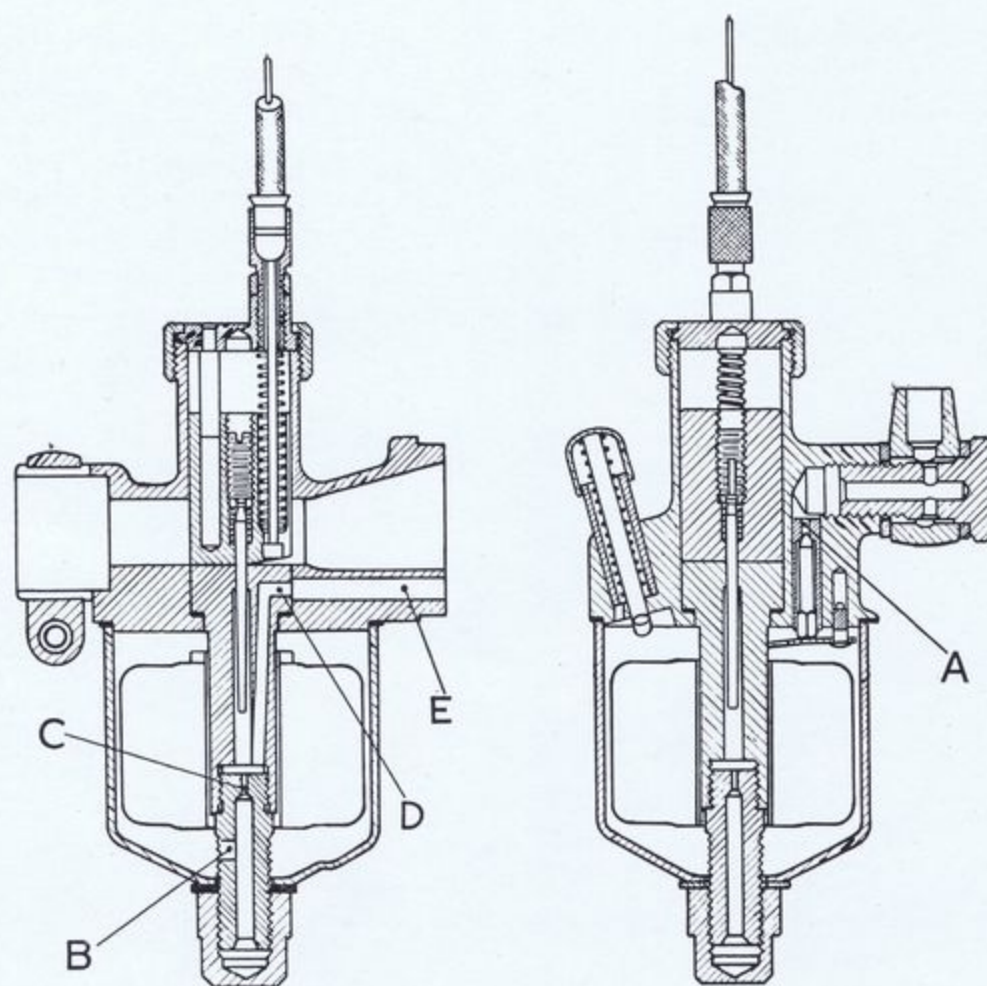

FIG. 26.
The function of the carburetter is to supply a mixture of fuel and air in correct proportion under all conditions. In the Villiers carburetter the float chamber (No. 23, Fig. 25) surrounds the jet centre piece (No. 12, Fig. 25), and in it an annular float (No. 22, Fig. 25) rises as the fuel enters the chamber until the correct level is obtained, then the forked lever (No. 38, Fig. 25) which rests on top of the float lifts the fuel needle (No. 37, Fig. 25) which has a conical end and shuts off the fuel supply by closing the hole in bush (A) Fig. 26.
A further refinement to compensate for engine speed which also assists in atomising the fuel is provided. The offset hole (D, Fig. 26) in the centre piece allows air to enter just above the jet orifice, which it should be noted, is submerged. This hole communicates with the atmosphere through the passage (E), and the size of hole in the centre piece determines the amount of correction provided.